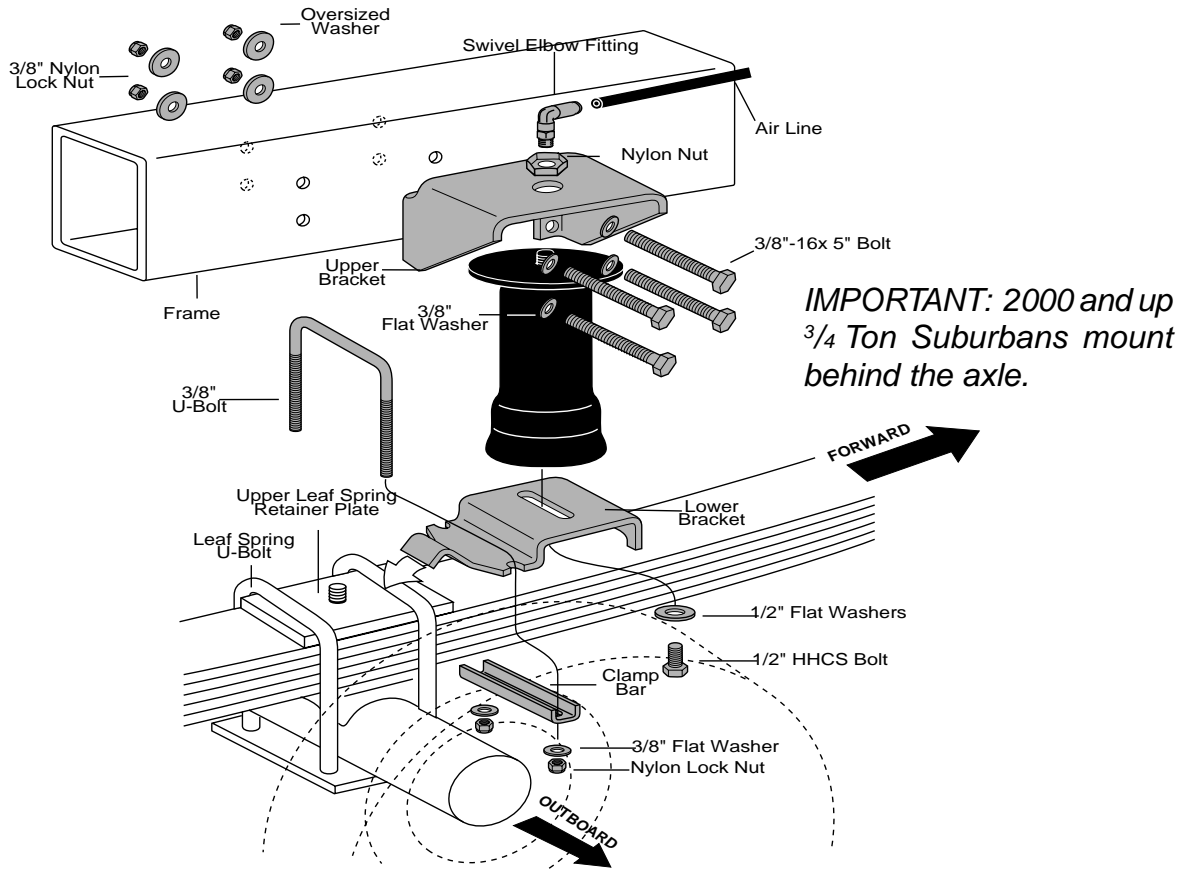

Figure 2
3. Centerpunch and drill the other two holes and insert and install the fasteners (Figure 2). Tighten to 20 ft-lbs.